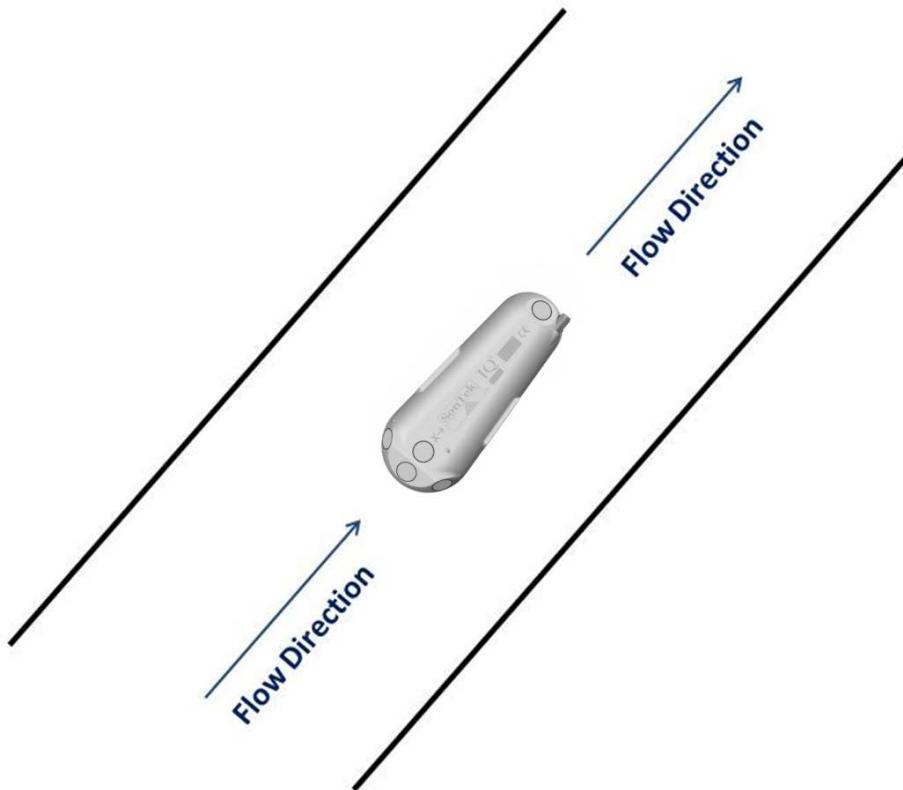

Figure B2. IQ Orientation Relative to Flow
- The IQ is mounted such that the along axis transducer are aligned with the center of the channel (Figure B2).
- The SonTek-IQ Pipe uses four transducers to measure velocity — two along-axis beams and two skew beams. This beam geometry optimizes the balance between total measurement range and performance in shallow water (Figure B2).